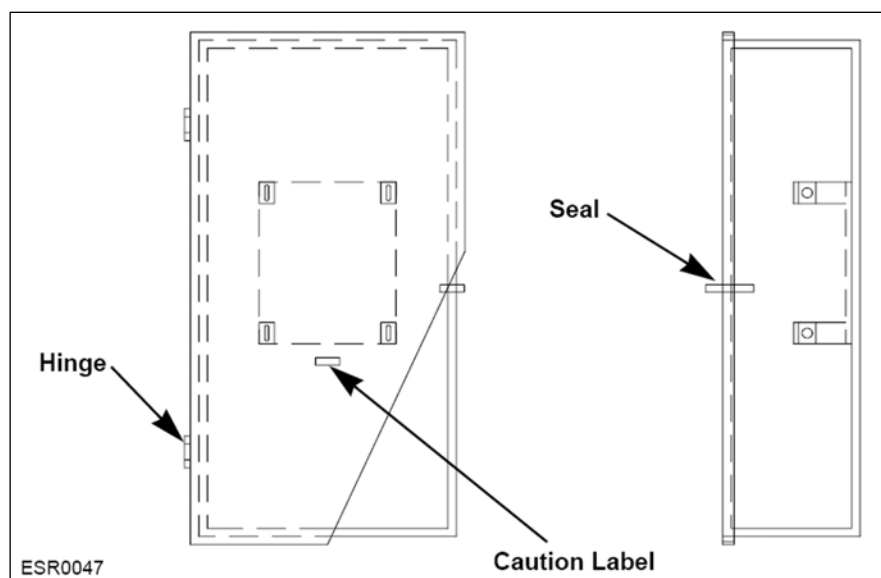

Figure 77: Current Transformer Cabinet, 800 A Maximum, 0 to 600 V (EUSERC 316, 317, 318)
Figure 77 shows a current transformer (CT) cabinet, 800 A maximum and 0 to 600 V (EUSERC 316, 317, and 318). **Table 20** shows the minimum dimensions of a CT cabinet.